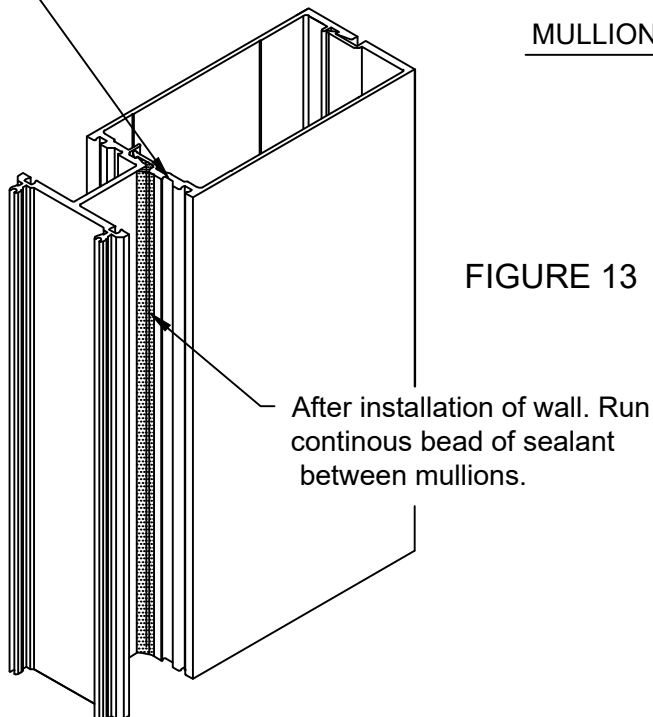

FIGURE 13
- 3.8 Apply continuous bead of sealant between all intermediate vertical mullion halves and tool into space provided. SEE FIGURE 13, sheet 15.